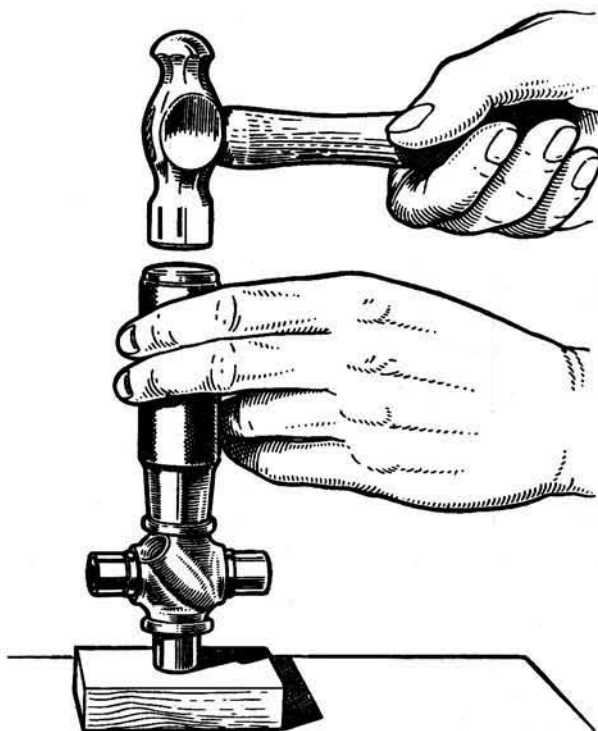

Fig.7.15. Replacing a gasket retainer
- 1 On early model cars it is advisable to fit new cork gaskets and gasket retainers on the spider using a tubular drift as illustrated in Fig. 7.15.